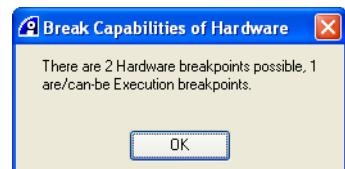

Figure 11-17 Example hardware break characteristics
2. Select **Debug → Breakpoints → Hardware → Show Break Capabilities of HW...** from the Code window main menu to display the information dialog box describing the support available for your target processor. Figure 11-17 shows an example:
The details shown depends on the target processor and the Debug Interface used to make the connection. Figure 11-17 shows the details for an ARM940T™ using DSTREAM or RealView ICE.